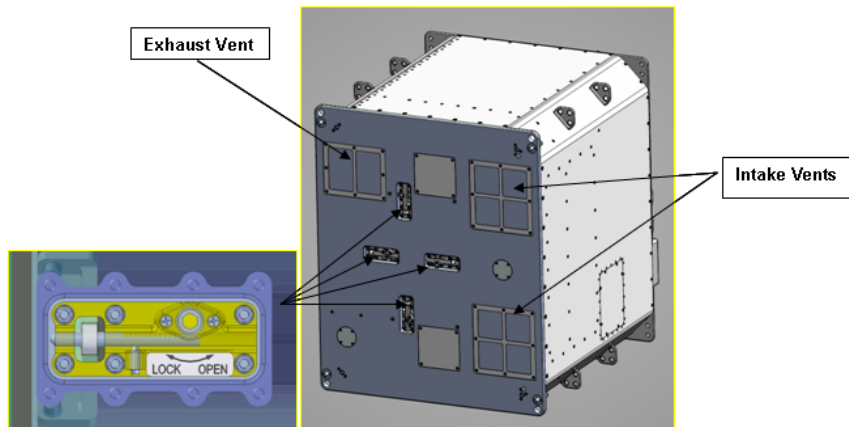

Figure 2. Cryocooler Launch Locks and Vents on Rear of Glacier.
- 8. Clean the Glacier rear intake and exhaust vents with gray tape (see Figure 2).
- 9. Push in and rotate clockwise cryocooler launch locks (four) at rear of Glacier until locking pin is engaged (LOCK) (3/16" Hex Head, 3/8" Drive; Driver Handle, 3/8" Drive) (see Figure 2).
- LAB101\_G 11. Push in and rotate counterclockwise cryocooler launch locks (four) at rear of Ascent Glacier until locking pin is disengaged (OPEN) (3/16" Hex Head, 3/8" Drive; Driver Handle, 3/8" Drive) (See Figure 2).
- 12.2 Clean the Glacier rear intake and exhaust vents with gray tape (see Figure 2).